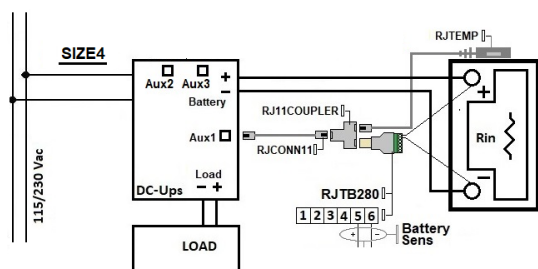

Fig.5
- Battery Sense connection YES; only for the device Size4 (Fig.5)
The Size 4 devices can operate either with or without the battery sense connections. If the battery sense cables are correctly connected as in Fig.5, the device automatically detects them and uses them for the battery internal resistance measurements. In such case the battery cables resistance measurement information (HR40102) is neither needed nor used. This configuration is the one which ensures the maximum measurement accuracy because it is not influenced by the battery cables resistance. If, on the contrary, the battery sense cables are not wired or are not correctly wired (e.g. wired with reverse polarity), the Size 4 device will make use of the battery cables resistance (direct write to HR40102 in units of 0.1mohm or use the mentioned wizard) to compute the battery internal measurement; if no cable resistance is provided (HR40102=0) the device will not carry out the battery internal resistance measurement.